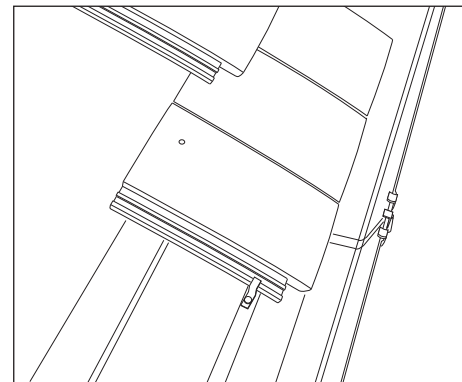

Fig. 23 – Clipping eaves course
- 2 Purpose made eaves clips are nailed to fascia board and located over side lock of the eaves course tile (Fig. 23).